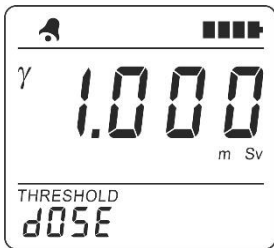

Figure 2.12 - LCD of the radiometer
2.3.3.9.5 To view the alarm threshold level, press the THRESHOLD button. The threshold level is displayed on the LCD (Figure 2.12) for as long as the THRESHOLD button is pressed and held (but not more than 2 s).